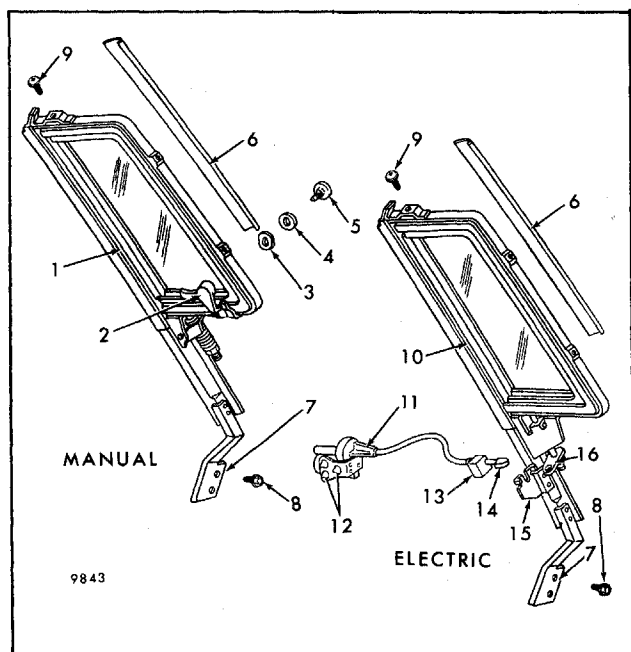
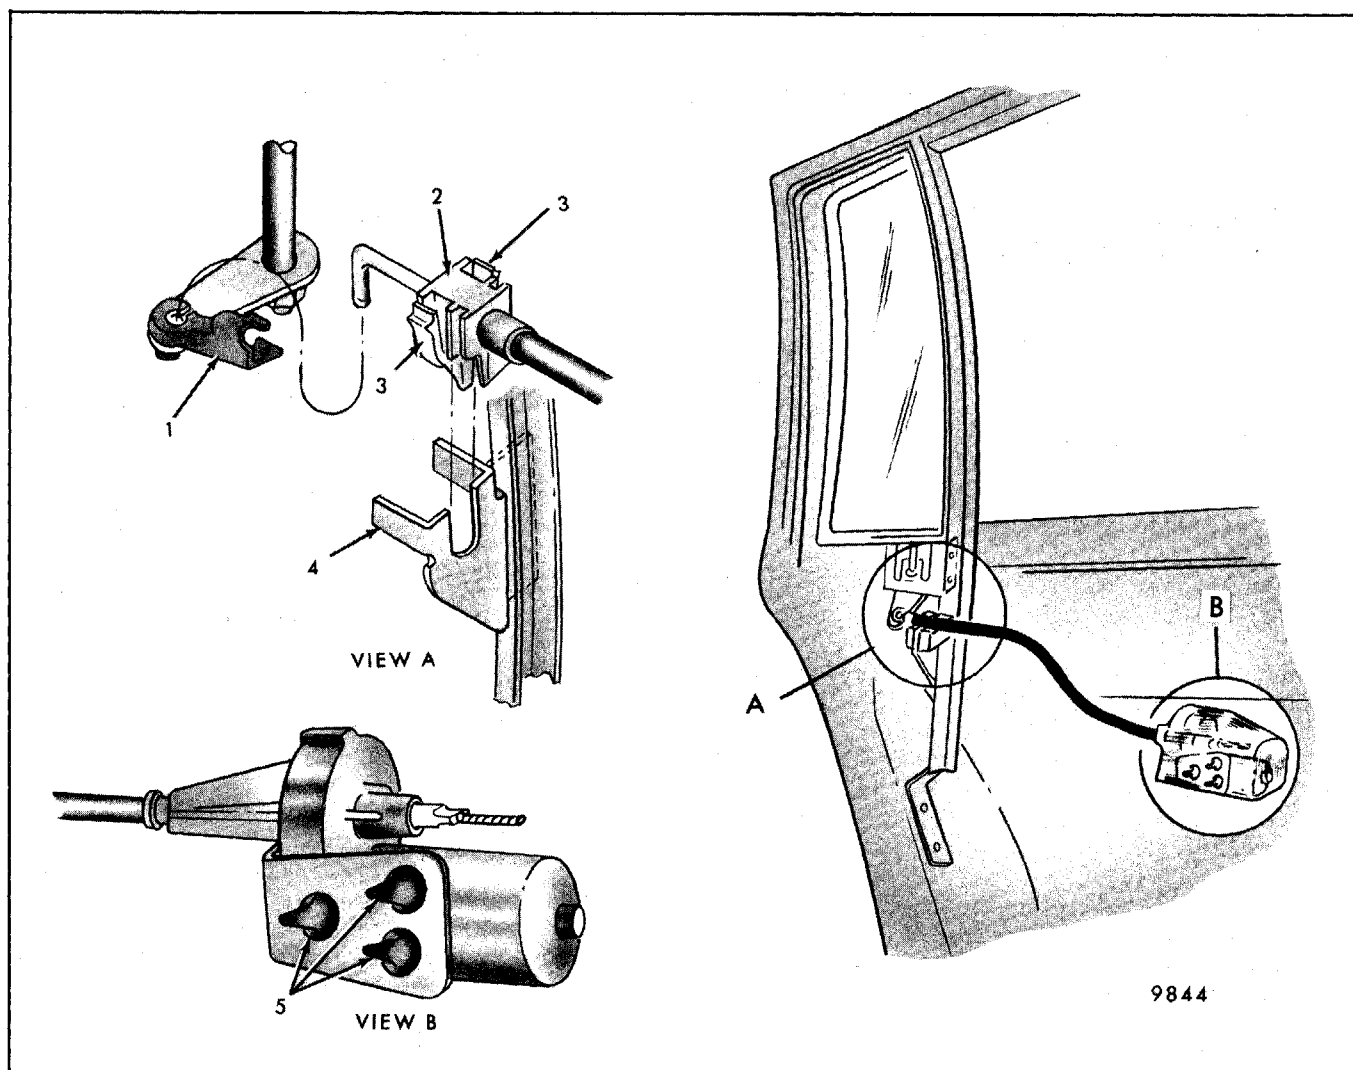

Fig. 5-141-Rear Door Vent Window Hardware - A-35 Styles
Fig. 5-142-Rear Door Vent Window Actuator Assembly Installation - A-35 Styles with Electric Option
The manual vent window has a latch handle (see Fig. 5-141) attached to a support screw by means of a roll pin. The support screw is nut retained to the glass. The latch handle is pulled upward to unlock the manual vent window.
The electric vent window is operated by an electric motor and drive cable assembly as shown in Figures 5-141 and 5-142. The actuator assembly is mounted on the outboard side of the rear door inner panel with rubber grommets (5, Fig. 5-142). It is controlled by either a master switch on the left front door armrest or a switch on the rear door trim panel.
Removal and Installation - Electric Vent Window Assembly (Numbers in parentheses refer to items in Fig. 5-142 unless otherwise indicated)
Removal and Installation (Refer to Fig. 5-141)
4. Remove nut, washer, spacer and support screw from glass (Fig. 5-141).
Removal and Installation (Numbers in Parenthesis Refer to Items in Fig. 5-142)